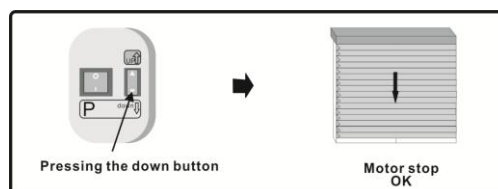

Fig.11
2.4 Move the shutter to the down limit by pressing the DOWN button until the motor stops. Refer to Fig.11